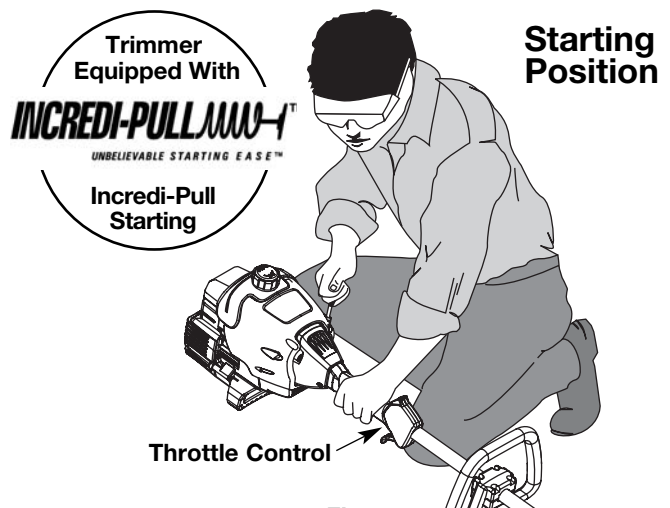

Fig. 5
WARNING: Avoid accidental starting. Make sure you are in the starting position when pulling the starter rope (Fig. 5). To avoid serious injury, the operator and unit must be in a stable position while starting.
4. Crouch in the starting position (Fig. 5). Do not squeeze the throttle, and pull the starter rope with a controlled and steady motion until the unit starts. Wait 10 to 15 seconds, then squeeze the throttle to control the cutting speed.